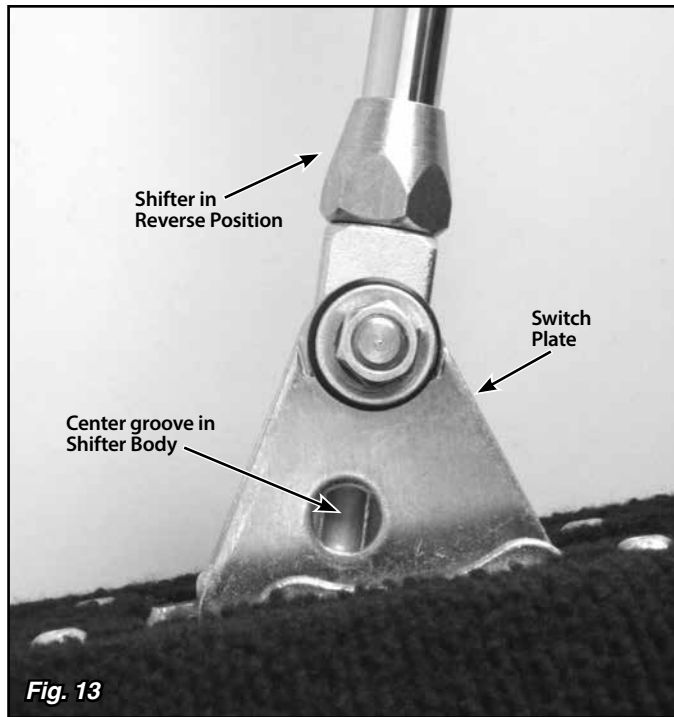

Fig. 13
Step 19: Put the shifter into the Reverse position. Reposition the switch plate so that the hole in the switch plate lines up with the center groove in the shifter body. Fig. 13 Screw the provided aluminum adjuster plug into the neutral safety switch opening. Wiggling the switch plate slightly forward and back while you are screwing the aluminum adjuster plug in will help get the shifter body centered on the adjuster plug. Fig. 14